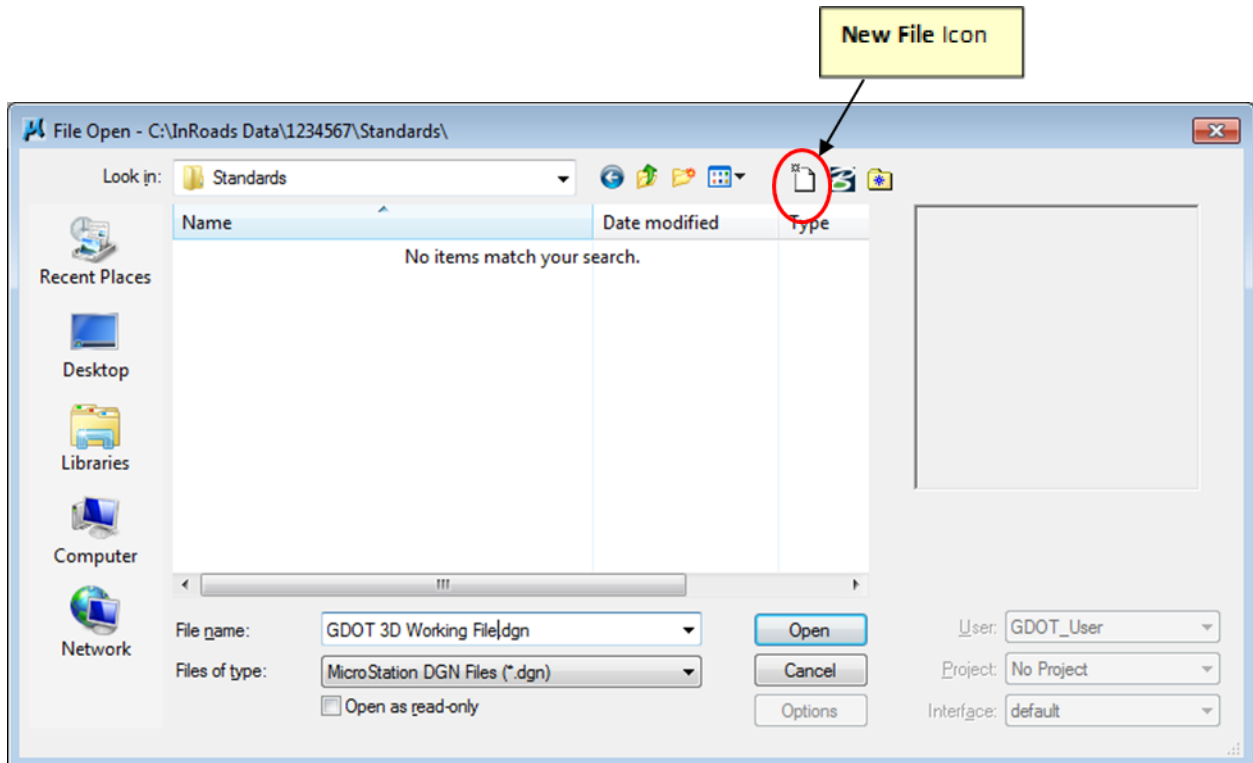

Figure 1-1 Starting MicroStation V8i and InRoads V8i
The **MicroStation** software will open first before **InRoads**. After the **MicroStation** Splash Screen appears, the **MicroStation Manager** dialog (See *Figure 1-1*) will open so that a “**Working**” DGN file can be created or an existing “**Working**” DGN file can be opened. The **InRoads** software can then be initiated.
2. After the MicroStation Splash Screen appears, the **MicroStation Manager** dialog box will open. (See *Figure 1-1*).
3. In the **MicroStation Manager** dialog box, click on the **New File** icon  (See *Figure 1-1*) depicted above. The **New File** command will be used to create the “Working” DGN file.